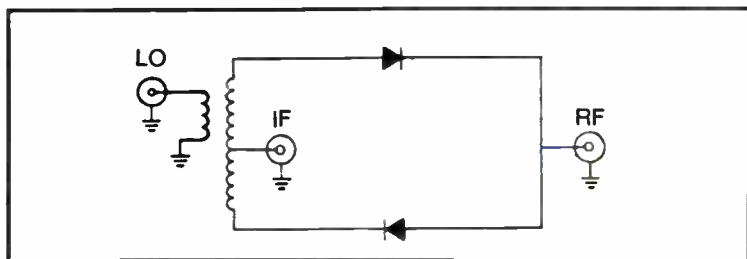
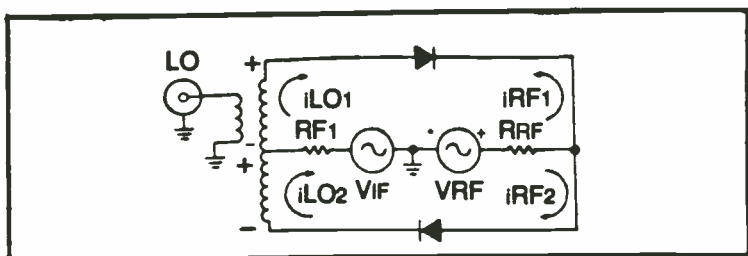

Fig. 6-11. Single balanced mixer.
Fig. 6-12. Loop currents in single-balanced mixer.
**How a Single-Balanced Mixer Works.** To begin, analyze a simplified version of a typical single-balanced mixer, shown in Fig. 6-11. The characteristic of the single-balanced mixer is that there is isolation between the local oscillator (LO) and the rf, attributable to the inherent circuit balance between the LO and rf. However, there is no balance between the rf and i-f; examination of Fig. 6-12 with its loop currents explains why.